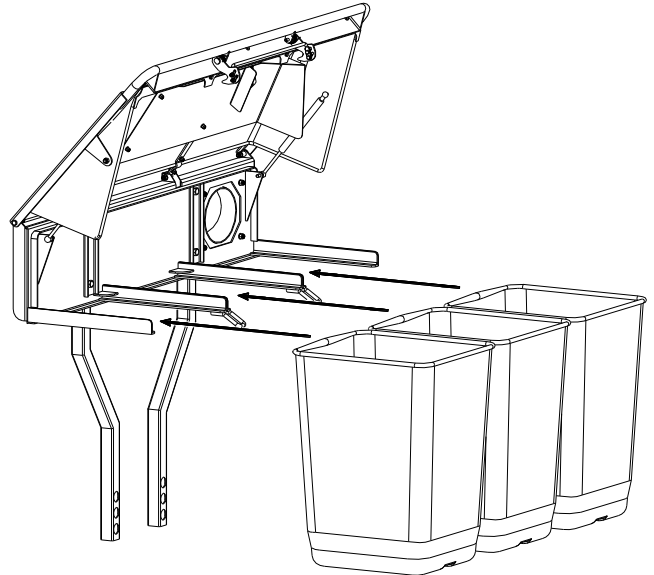

FIG 11
3.6 Installing Grass Bag (FIG 11)